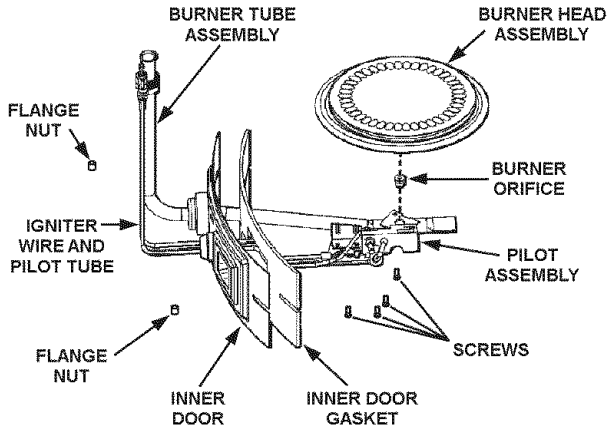

FIGURE 19.
- Remove flange nuts holding inner door in place with 3/8" nut driver, see Figure 19.